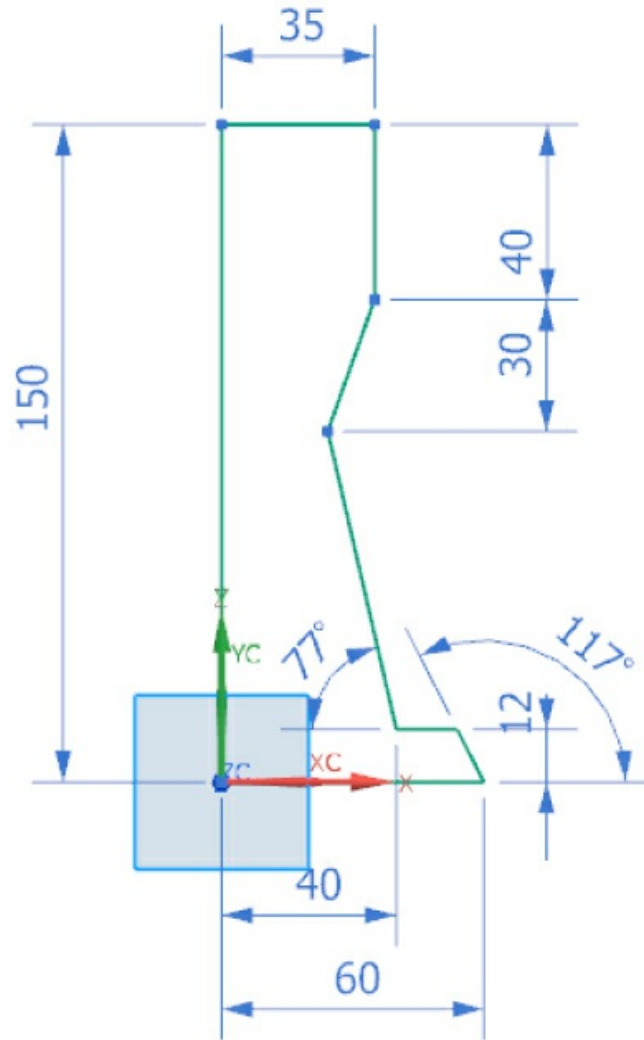

Figure 3-63 *The completed sketch displayed after adding the required constraints and dimensions*
3. Select line 8 and then place the dimension on the left of the sketch; an edit box with default value is displayed. Enter **150** in this edit box and press the ENTER key; the dimension value is modified, refer to Figure 3-63.
4. Select line 5 and then place the dimension on the right of the sketch. Next, modify the dimension value to **30** and press the ENTER key, refer to Figure 3-63.
5. Select line 7 and place the dimension above the sketch. Next, modify the dimension value to **35** and press ENTER, refer to Figure 3-63.
6. Select line 2 and then line 1; an angular dimension gets attached to the cursor. Move the cursor outside the sketch towards right and click the left mouse button to place the dimension. Next, modify the dimension value to **117** and press ENTER, refer to Figure 3-63.
7. Select lines 3 and 4; an angular dimension is attached to the cursor. Move the cursor inside the sketch and place the dimension. Next, modify the dimension value to **77** and press ENTER, refer to Figure 3-63.
9. Select line 2 and place the dimension on the right of the line. Next, modify the dimension value to **12** and press ENTER, refer to Figure 3-63. Press the ESC key twice.
10. Choose the **Fit** tool from the **Operation** group of the **View** tab. The resulting sketch after adding all the dimensions is shown in Figure 3-63.
In Figure 3-63, the display of constraints is turned off to get a better display of dimensions. You can turn off the display of constraints by choosing the **Display Sketch Constraints** tool.